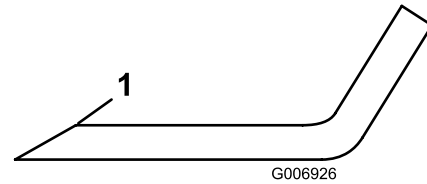

Figure 85
6. If dull or nicked, sharpen only the top cutting edge while maintaining the original cutting angle (Figure 85).
5. Inspect the cutting edges of all blades. Sharpen the cutting edges if they are dull or nicked. Sharpen only the top of the cutting edge and maintain the original cutting angle to make sure that it is sharp (Figure 85).